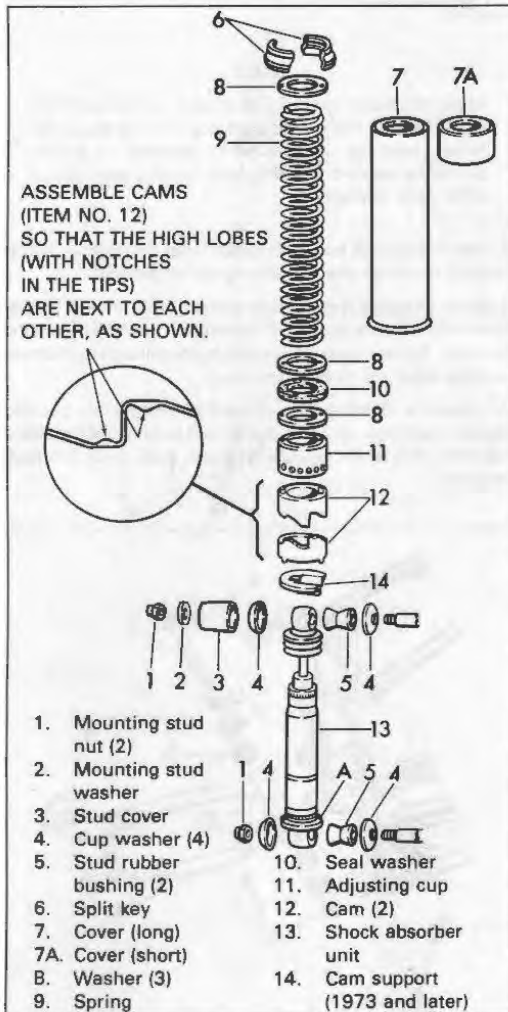
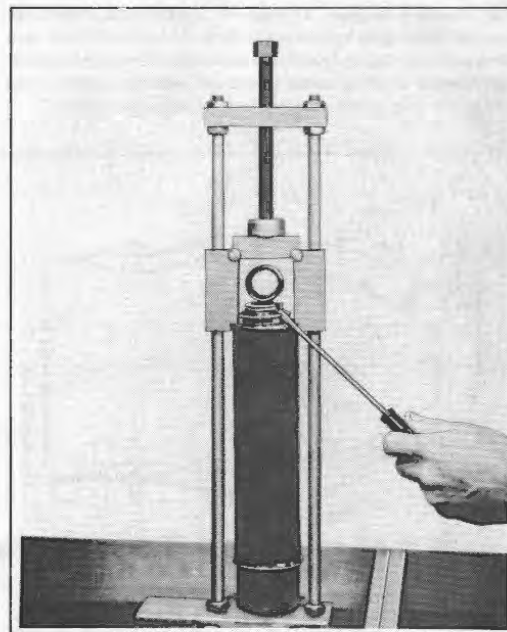

Figure 2-54. Rear Shock Absorber - Exploded View
Figure 2-55. Disassembling Shock Absorber
DISASSEMBLING REAR SHOCK ABSORBER (Figure 2-54)
Remove top and bottom mounting stud nut (1), mounting stud washer (2), upper stud cover (3) and cup washer (4). Slip shock absorber assembly off upper and lower studs. Push rubber bushings (5) from shock absorber mounting eyes. Place shock absorber in Rear Shock Absorber Tool, Part No. 97010-52A with split key (6) up. Compress absorber spring enough to remove each half of split key (6) from flange on shock eye as shown in Figure 2-55. Release spring compression and remove absorber assembly from tool. Remaining items can be removed in order shown in Figure 2-54.
Apply a thin coat of grease to all surfaces of both cams. Note that cams (12) are identical and be sure to position cam lobes correctly as shown in Figure 2-54 inset. Place assembly in compressor tool and compress spring enough to install key halves (6). Release spring compression. Keys will lock into place in inside diameter of covers 7 or 7A.
Install each shock absorber on motorcycle with slot in cam support (A, Figure 2-54) facing toward wheel.